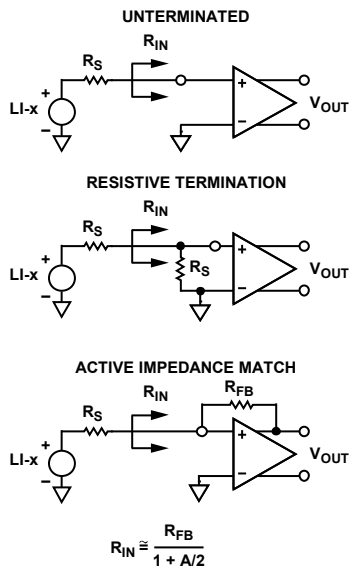

Figure 49. Input Configurations
The short-circuit noise voltage (input-referred noise) is an important limit on system performance. The short-circuit noise voltage for the LNA is  $0.75 \text{ nV}/\sqrt{\text{Hz}}$  at a gain of 21.3 dB, including the VGA noise at a VGA postamp gain of 27 dB. These measurements, which were taken without a feedback resistor, provide the basis for calculating the input noise and noise figure (NF) performance of the configurations shown in Figure 49.